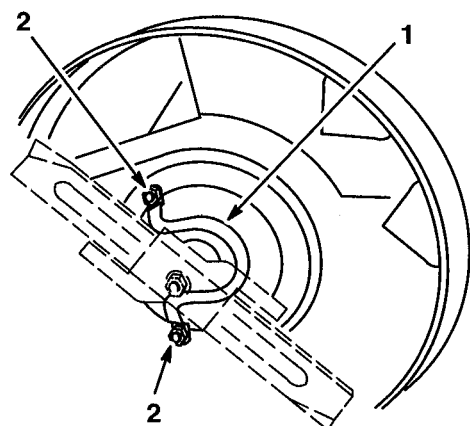

Figure 17
4. SELF-PROPELLED MODEL ONLY—Remove the two bolts securing belt guide to underside of mower deck (Fig. 17). Belt guide must be removed in order to access drain plug.